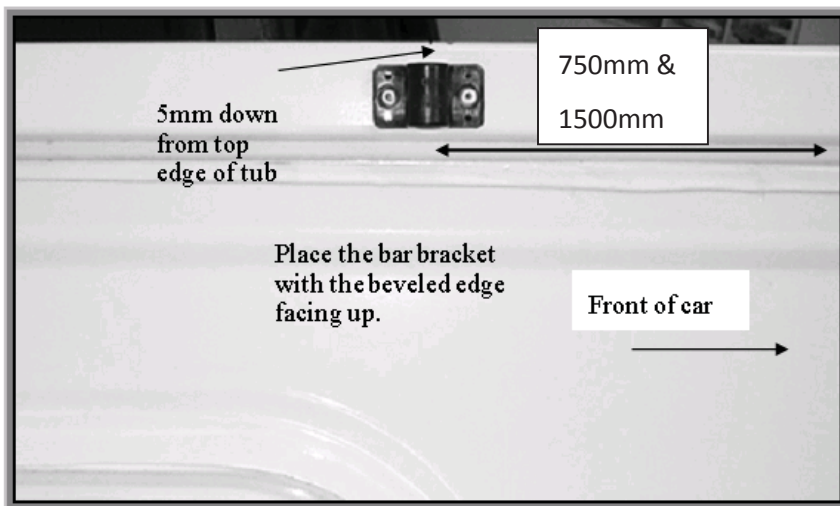

Figure 2: Placement of bar bracket
6. To fit bar brackets measure 750mm and 1500mm back from the inside front edge at the top of the tub and place them as shown in Figure 2. (5mm down from top edge of tub). Drill and rivet using two large rivets for each Bar Bracket. Install support bar according to supplied instructions.